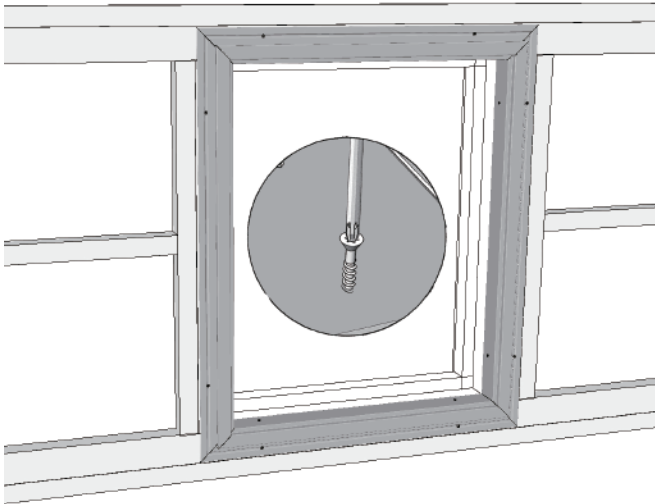

Fig24-2
2. Door and window openings HLYC-019F (45 degree angle to spall), pre-drilled holes and then fixed with open nails. As shown in Figure 24-2: